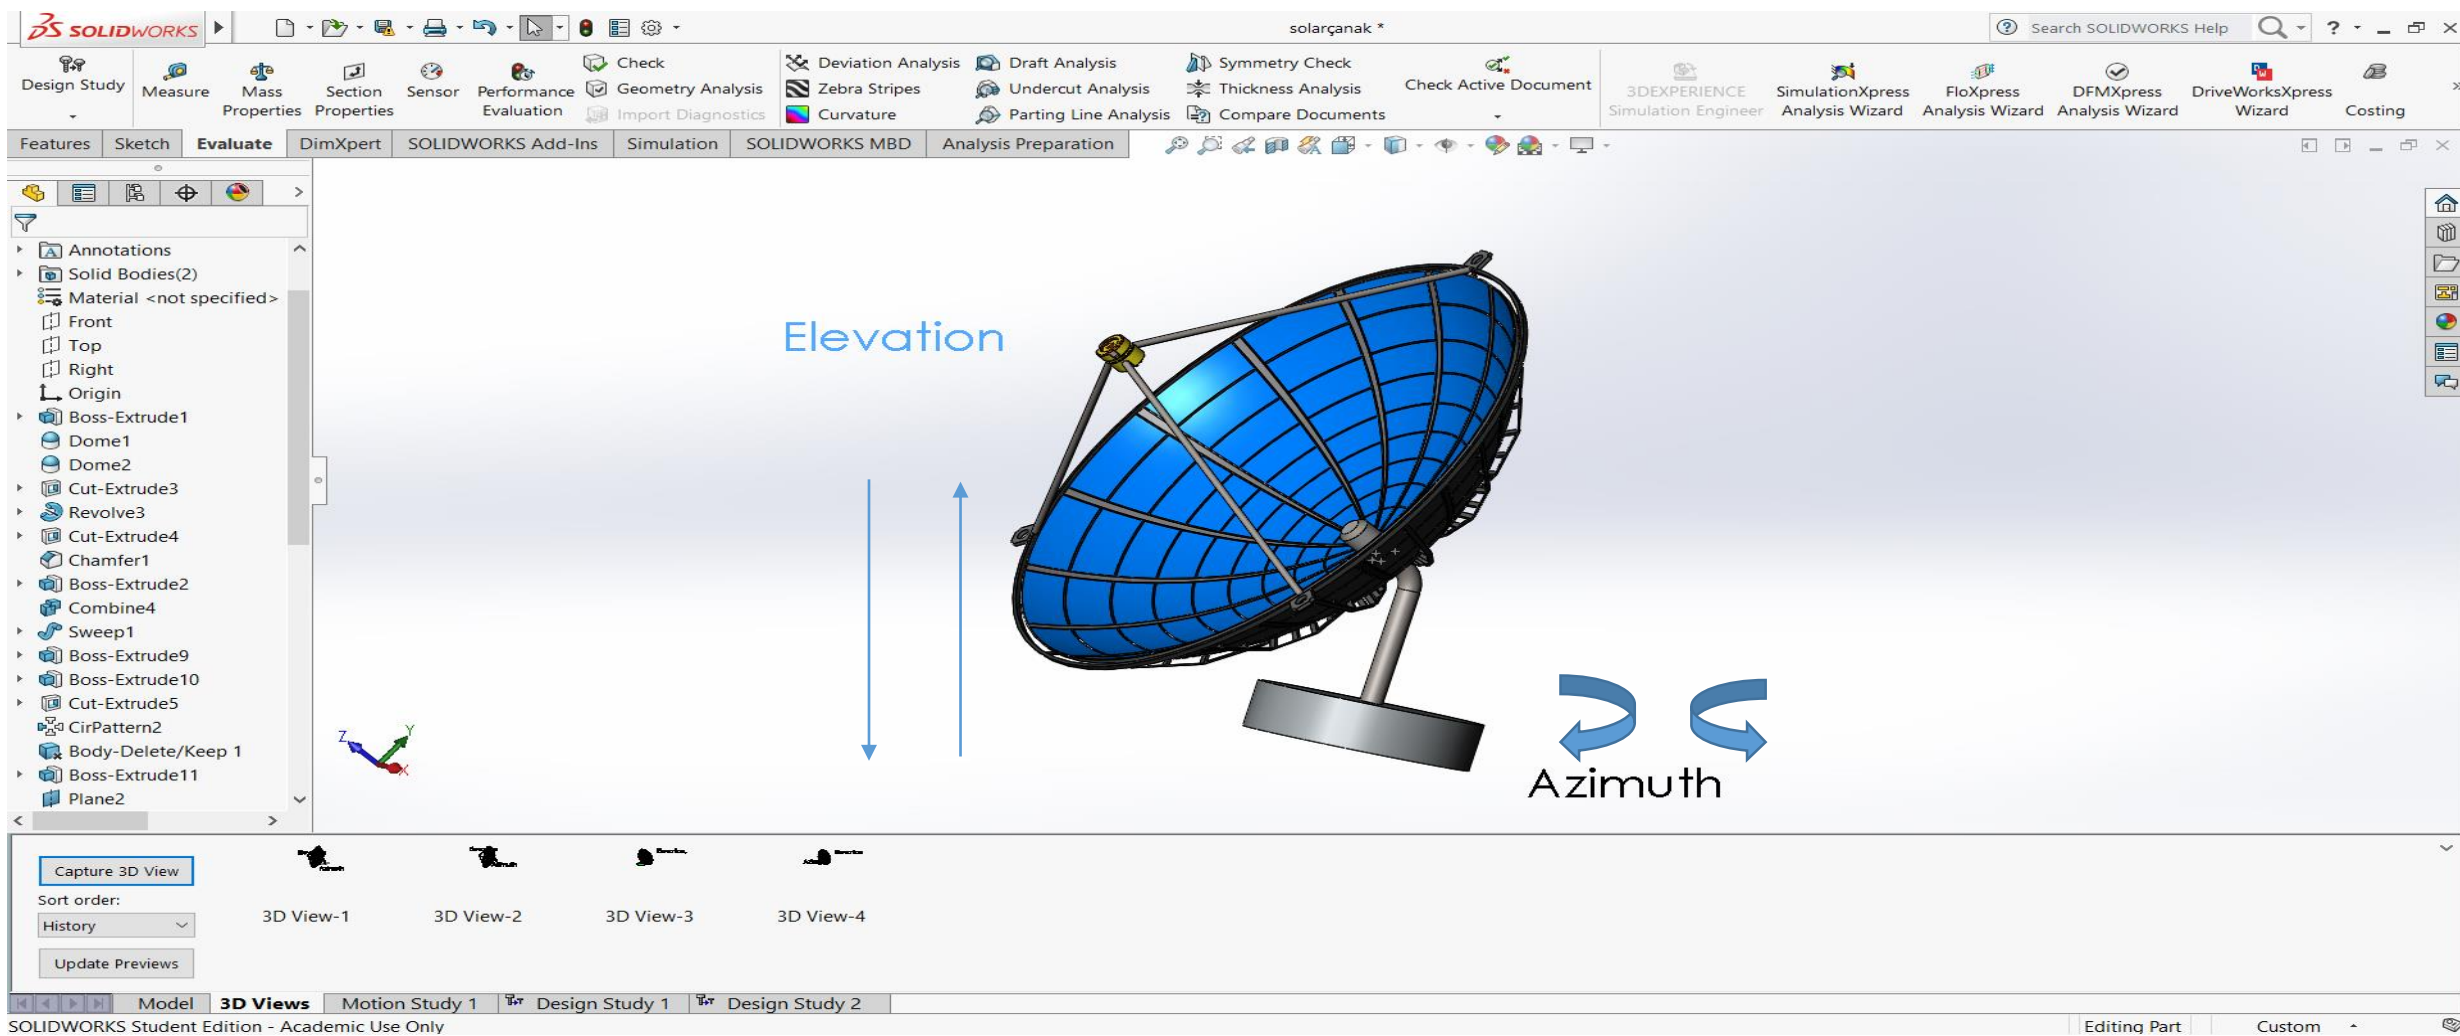

Figure 13
- 5) Solidworks source, Figure 13→ <https://grabcad.com/library/solar-dish-gunes-canagi-1>